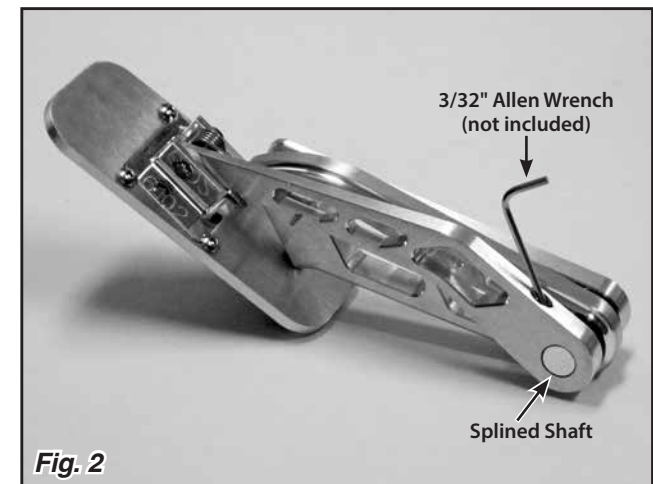

Fig. 2
**Step 2:** Loosen the #10-24 x 1/4" set screw in the lower pedal arm using a 3/32" Allen wrench (Fig. 2), and slide the lower arm off of the splined shaft that is part of the upper arm.